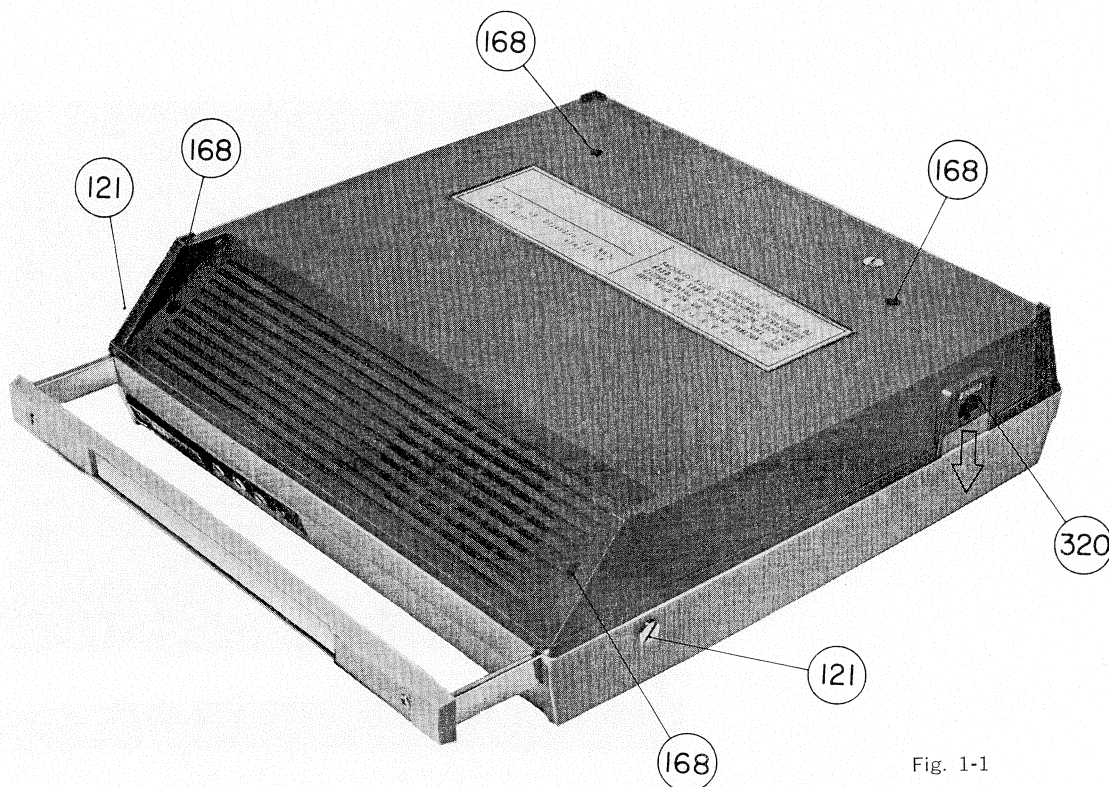
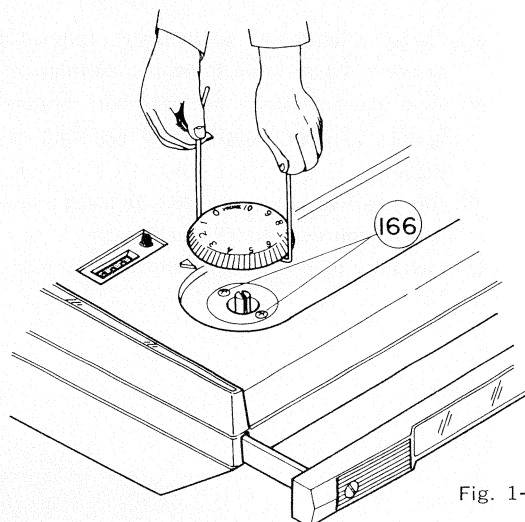

Fig. 1-1
Fig. 1-3
1. How To Remove Back Lid (Fig. 1-1)
- (1) As shown by Fig. 1-3, remove Volume Control knob by means of a fine cloth or string.
- (2) Using a plus (+) screwdriver, remove setscrews 166 located under Volume Control knob.
- (3) Find on both sides of case two setscrews 121 (Fig. 1-1) securing the carrying handle and remove them by means of a large minus (-) screwdriver.
- (4) Unsolder lead wire of battery terminal.